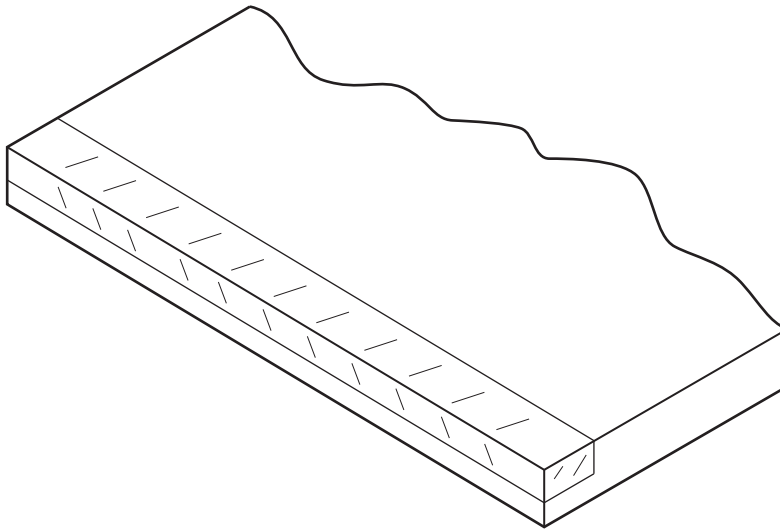

Fig. 11
- (c) A lapped joint is used to join the sides together at each corner. Fig. 11 shows part of a lapped joint marked out.
- (i) Indicate clearly, on Fig. 11, **one** line that would be marked out using a marking gauge and **one** line that would be marked out using a cutting gauge. [2]